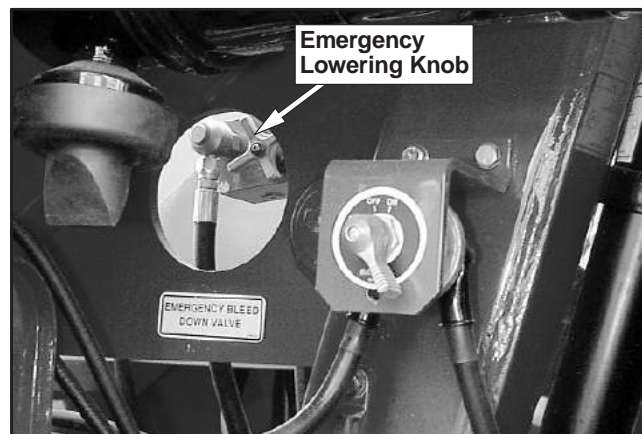

Figure 10.5—Emergency Lowering Knob
1. Slowly turn the knob (refer to Figure 10.5) to open the bleed down valve. Control the rate of descent by turning the knob.